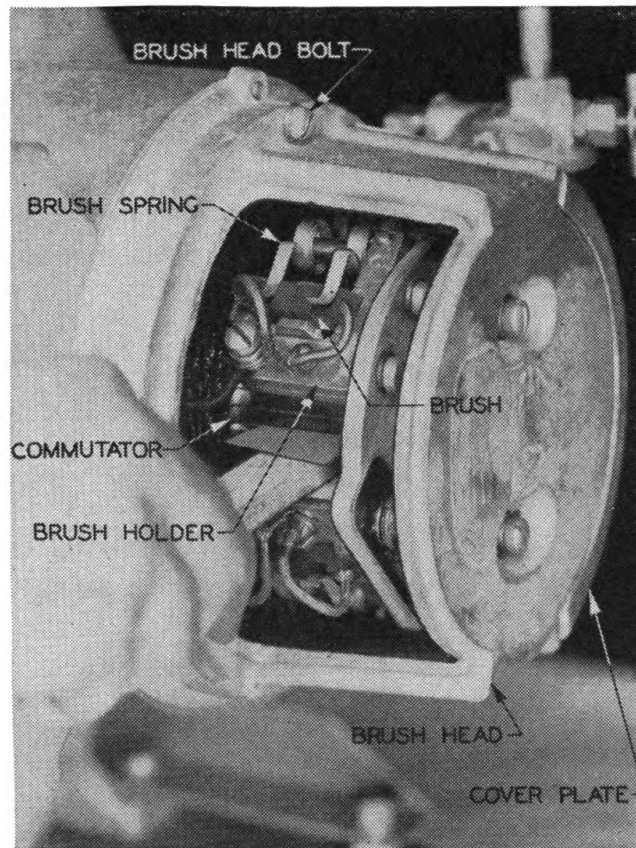

FIGURE 10.—Commutator cleaning.
*b. Commutator* (fig. 10).—(1) To inspect the commutator, remove the accessible brush head cover plate with an offset screw driver. The commutator should require no cleaning for several hundred hours of operation. It needs cleaning only when excessively carbonized.
(2) To clean the commutator, first start the engine and then place a strip of very fine sandpaper (00 to 8/0) (not emery) on the commutator and hold down with a stick of wood until commutator is clean.